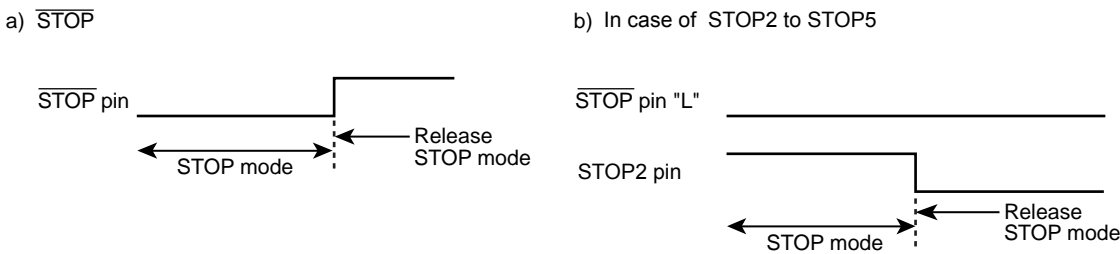

Figure 14-2 Priority of STOP pin and STOP2 to STOP5 pins
- Note 5: When the STOP mode is released by STOP2 to STOP5 pins, the level of  $\overline{\text{STOP}}$  pin should hold "L" level (Figure 14-2).